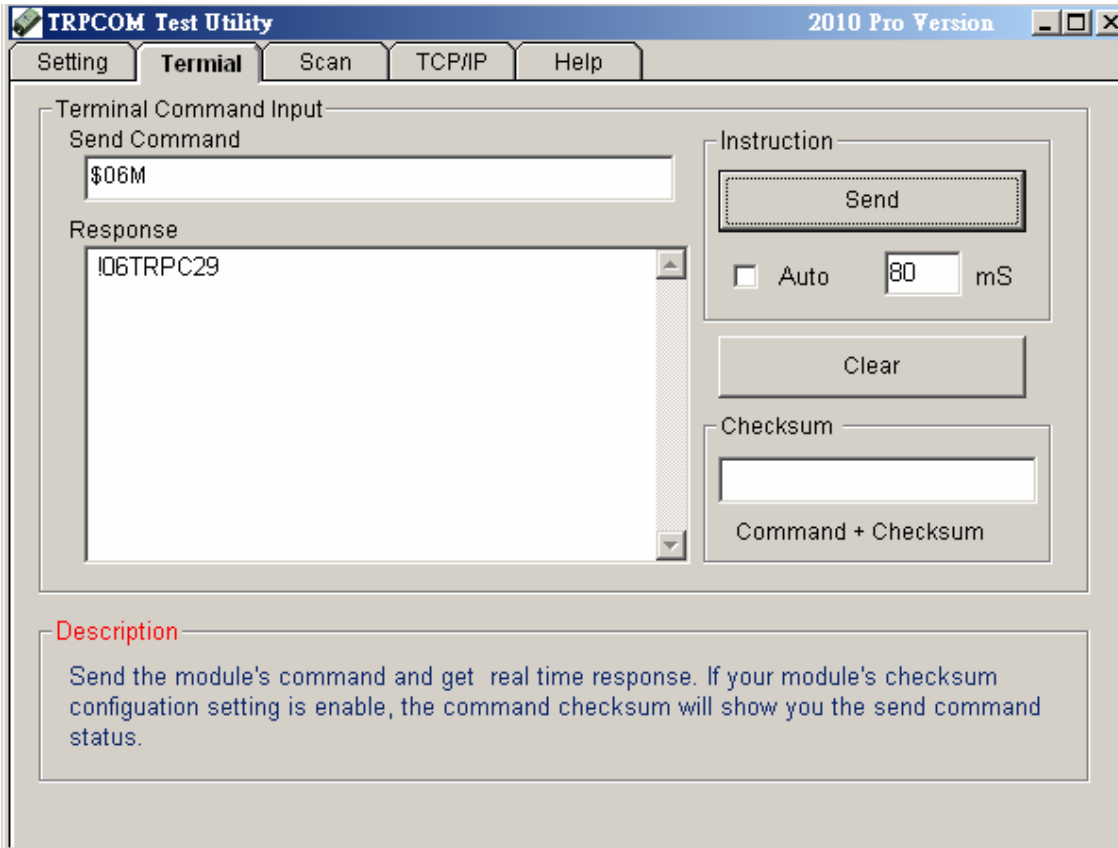

Figure 2
2.The "Terminal" function is for user to input command, user can control all of module's digital input/output status or wait to get module response status See Figure 2.